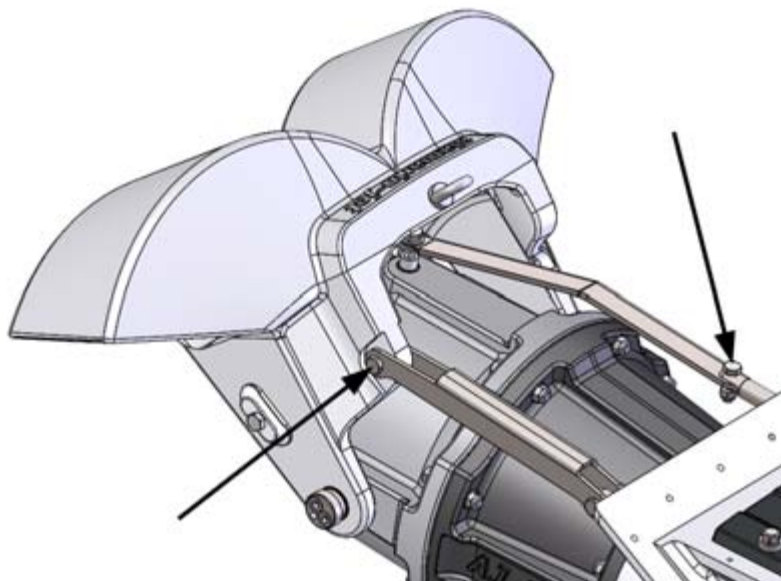

Figure 26. Reversing deflector screws
1. Open the screws indicated by arrows in figure 26.